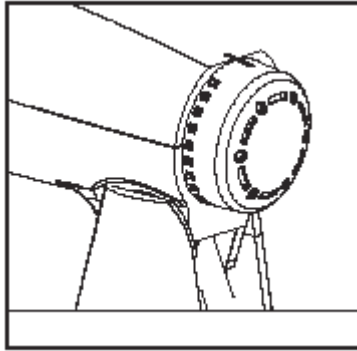

Figure 7: Choosing a desired Speed.
2. As shown in Figure 7, you can turn the speed control dial clockwise to increase speed and counterclockwise to decrease the speed.